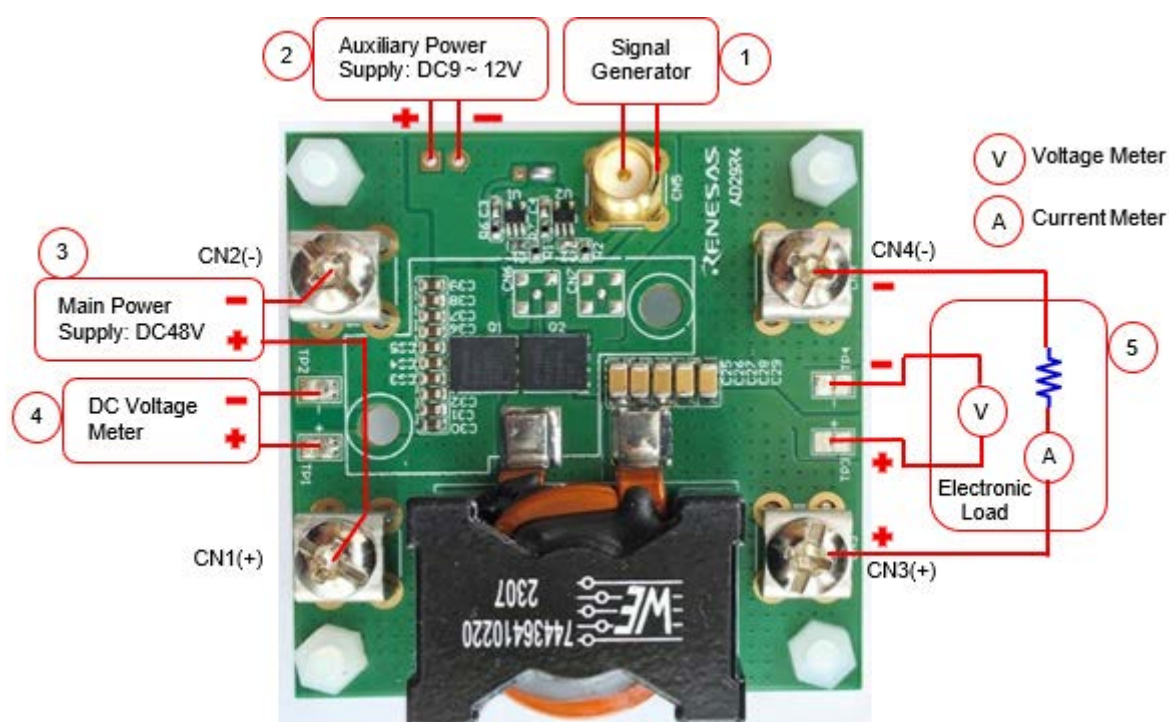
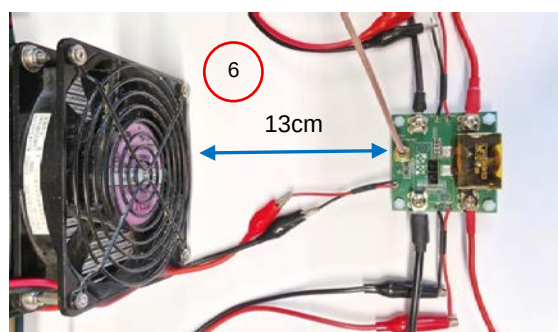

Figure 13. Setup Legend
Figure 14. Axial Fan Airflow
1. Turn off the power before connecting any device and refer to Figure 13 and Figure 14 for the following steps.
2. Connect a signal generator to SMA-KE connector CN5 as shown in item 1.
3. Connect a DC9–12V power supply with a current limit of 0.5A to terminal J2 as shown in item 2.
4. Connect a DC48V power supply with a current limit of 9A to connectors CN1(+) and CN2(-) as shown in item 3.
5. Connect a DC voltage meter to TP1(+) and TP2(-) to measure input voltage as shown in item 4.
6. Connect an electronic load to connectors CN3(+) and CN4(-) for output load current measurement and TP3(+) and TP4(-) for output voltage measurement as shown in item 5 of Figure 13.
7. An axial fan (NMB: 4710PS-22T-B30) is put 13cm from the evaluation board and provides an air flow of 63.5 CFM as shown in Figure 14 item 6